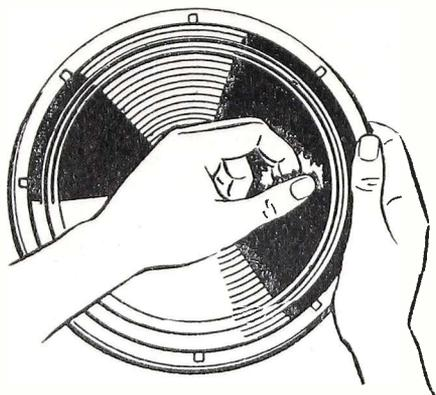

Fig. 1—Remove old cone and voice coil assembly.
the equalization applied at the transmitter—is measured in microseconds, and a value of 75  $\mu$ sec is specified by the FCC. Presumably all stations are operating under these standards. This pre-emphasis provides a response curve which rises gradually from the middle range up to a boost of 10 db at 6,700 cps, and of 15 db at 12,000 cps, as shown at (A) in *Fig. 1*.
Fig. 1—Frequency response of FM transmitter at (A), showing pre-emphasis; of FM tuner at (B) showing de-emphasis; and sum of two curves giving flat response, (C).